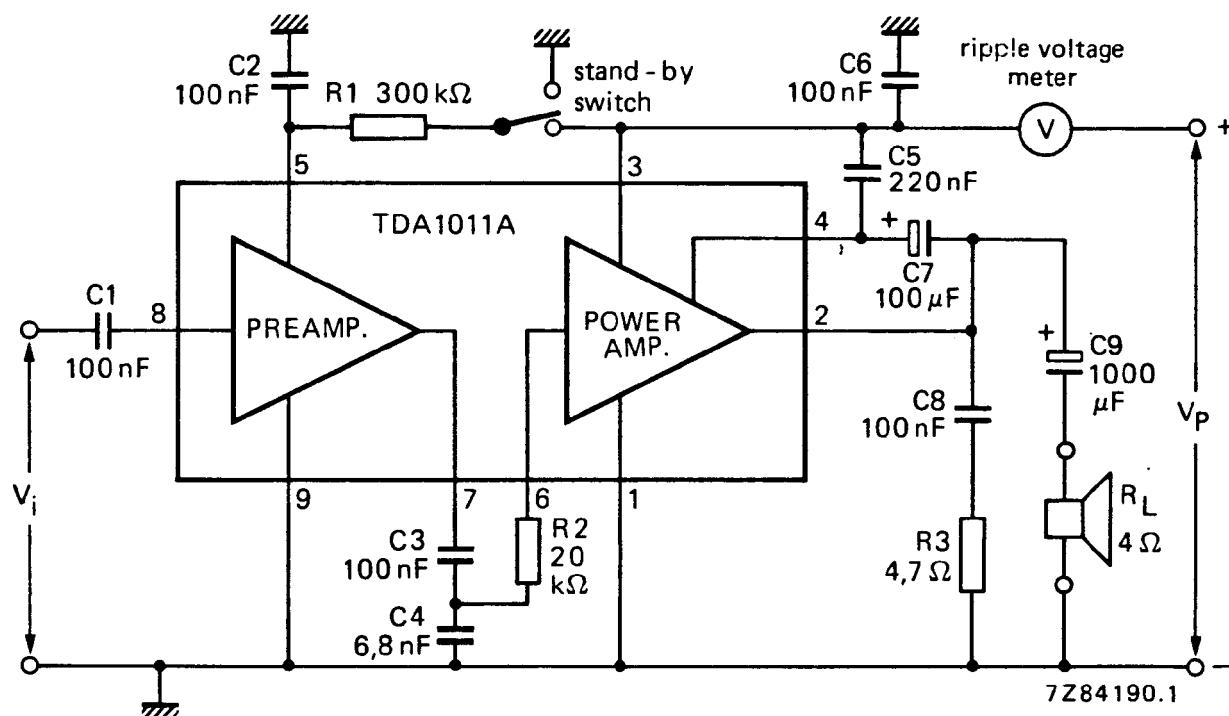

Fig. 3 Test circuit.
A.C. CHARACTERISTICS $T_{amb} = 25^{\circ}\text{C}$; $V_P = 12$ V; $R_L = 4 \Omega$; $f = 1$ kHz unless otherwise specified; see also Fig. 3.A.F. output power at $d_{tot} = 10\%$ (note 1)